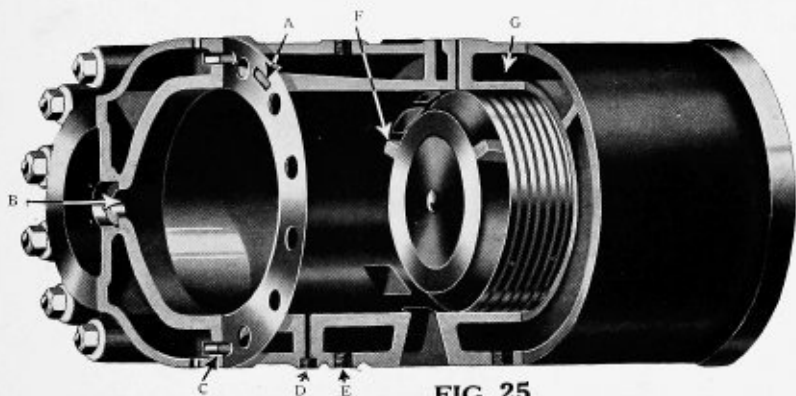

FIG. 25
It is important that the piston head be set in the proper relationship to the transfer ports (upper ports). There are two lugs *F* on the end of the piston—see Fig. 25—which must come on either side of the transfer port. These lugs, or deflectors, guide the transfer mixture along the top of the cylinder. If it were not for these deflectors part of the transferred mixture would travel around the end of the piston down toward the exhaust ports and not only waste part of the mixture, but cause frequent back-firing. This mixture, when transferred
seemingly interfering with the best operation of the engine. The object in screwing the piston in would be to reduce the compression pressure. Usually, however, when this trouble exists, it is best to decrease compression pressure by inserting a ring between the face of the cylinder and the cylinder head, thus allowing the piston to remain in its true relative position to the transfer ports. By referring to Fig. 25, (B) shows spark plug hole, (A) gasket, (C) drain from main jacket to head, (D) and (E) drains, (G) air and gas mixture passageway.